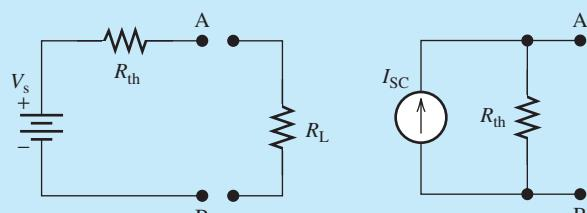

FIGURE 3.78 (a) Thévenin and (b) Norton equivalent circuit for the circuit of Figure 3.77.
- a. From Figure 3.77(b), the computer's equivalent circuit is a voltage source in series with a $500\text{-}\Omega$ resistor. Indeed, this is the Thévenin equivalent circuit of the computer. The Norton equivalent circuit of the computer will be a current source in parallel to the same resistor. The Thévenin and Norton equivalent circuits are shown in Figure 3.78(a) and (b), respectively.